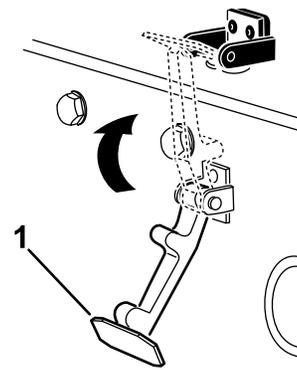

**Figure 33**
3. While aligning the mounting holes, position the CE lock bracket and the hood-latch bracket onto the hood. The lock bracket must be against the hood (Figure 33). Do not remove the bolt and nut assembly from the lock bracket arm.
5. Rivet the brackets and the washers to the hood (Figure 33).